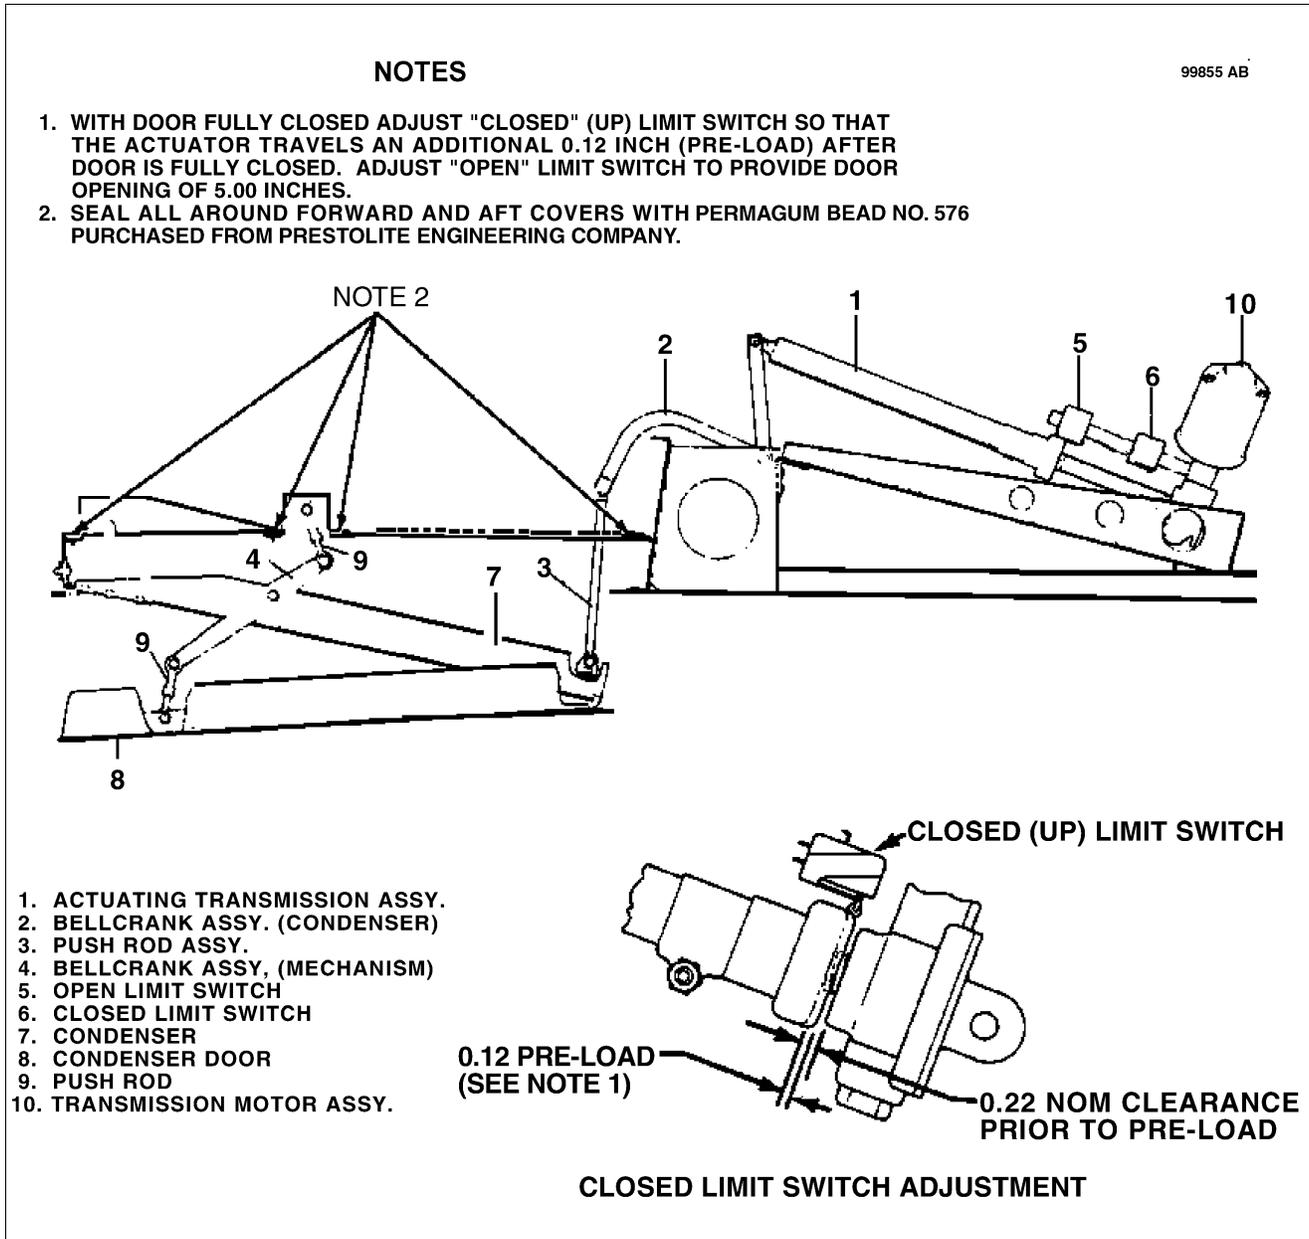

Figure 21-16. Condenser Air Scoop Installation
- (1) Install condenser core to frame assembly with hose fittings forward and RT fitting pointed inboard.
- (2) Place condenser and frame assembly to fuselage frame mounting bracket and insert the eight screws into piano hinge.
- (3) Attach side hinges, actuating rod, and rig per condenser assembly rigging instructions.
- (4) Seal and couple hose fittings (seal with Loctite refrigerant sealant applied to flares only).
- (5) Adjust condenser per condenser assembly rigging instructions.
***TEST FOR CARBON MONOXIDE (CO) ON GROUND AND IN FLIGHT WITH AND WITHOUT AIR CONDITIONER OPERATING. PRESENCE OF CO MUST NOT EXCEED 1 PART IN 20,000.***
- (6) Seal around forward cover panel (and aft cover panel if removed) with Permagum Bead No. 576 purchased from Prestolite Engineering Company ( ref. Figure 21-16 ).
The actuator is on a bracket mounted between two bulkheads in tail cone. It is coupled to the condenser assembly through a bellcrank mounted to a bracket on bulkhead aft of condenser. Actuator travel is controlled by two limit switches. Both up and down switches are on the actuator,( ref. Figure 21-16 ) for switch locations.
- d. Condenser Assembly Rigging Instructions ( ref. Figure 21-16 )
- (1) Adjust open limit switch to open condenser door 5.00 ± 0.50 inches measured from leading edge of door to fuselage skin.
- (2) Adjust side push rods so a vertically measured gap of 0.16 inch exists along trailing edge of door the instant forward edge of door is flush with fuselage skin.
- (3) Fully close door and adjust CLOSED limit switch so actuator travels an additional 0.12 inch with door fully closed, (this is necessary to preload mechanism, ref. Figure 21-16 ).
- (4) Cycle assembly several times. Verify proper operation without binding.